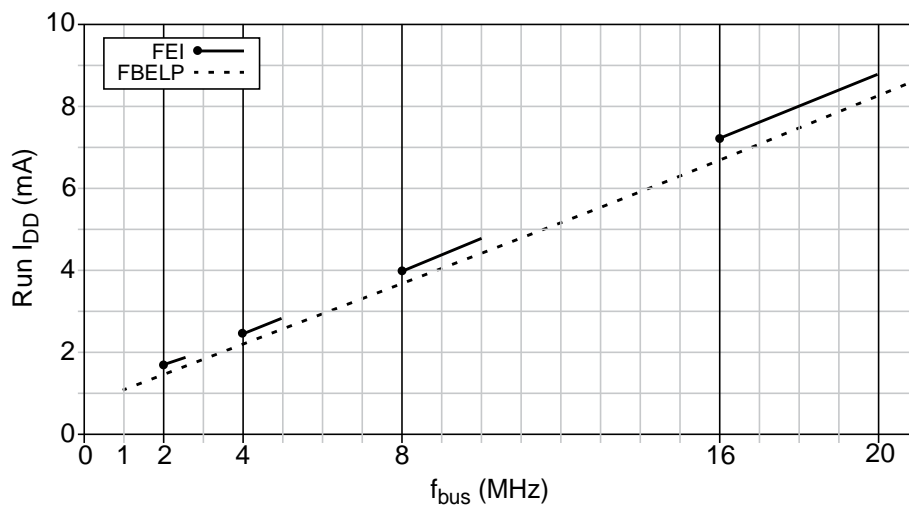
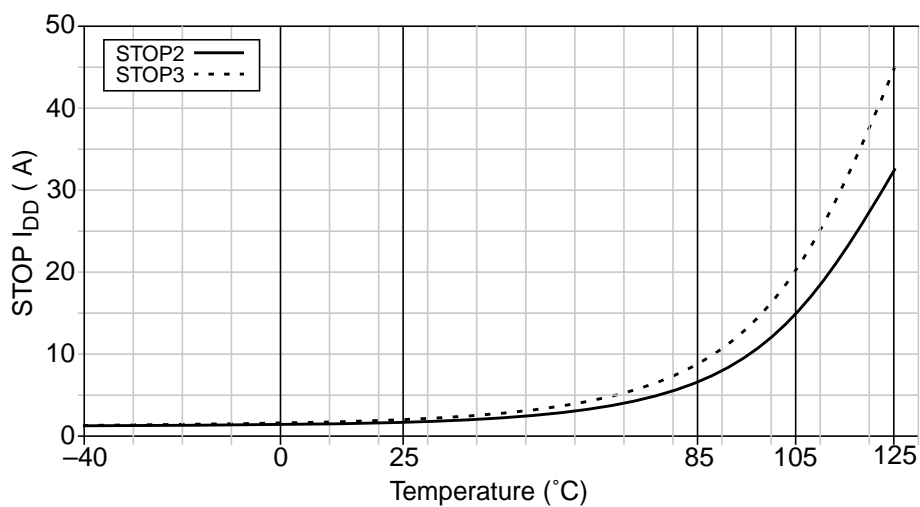

Figure A-5. Typical Run  $I_{DD}$  vs. Bus Frequency ( $V_{DD} = 5V$ )
Figure A-7. Typical Stop  $I_{DD}$  vs. Temperature ( $V_{DD} = 5V$ )
- 1 Typical values are based on characterization data at 25°C. See Figure A-5 through Figure A-7 for typical curves across voltage/temperature.